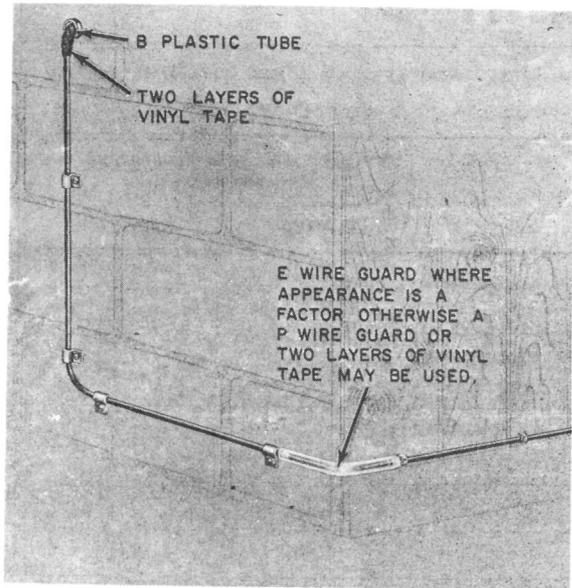

Fig. 2—Use of Vinyl Tape or E Wire Guard
- P Wire Guard, B Plastic Tube, or two layers of vinyl tape shall be used in all cases where telephone wiring is subject to abrasion or mechanical damage. E Wire Guard (plastic tubing) may be used in place of vinyl tape or P Wire Guard on station wiring within buildings where improved appearance is desired. (See Fig. 2.)